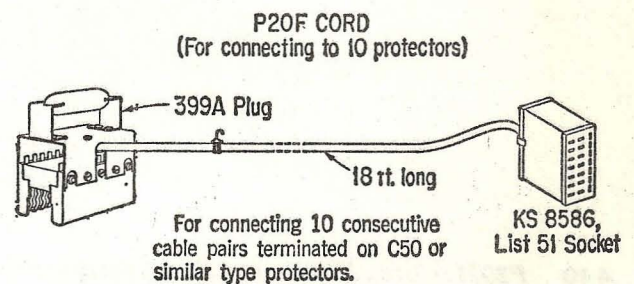

Fig. 9
- 4.07 P20F Cord:** This cord is illustrated in Fig. 9.